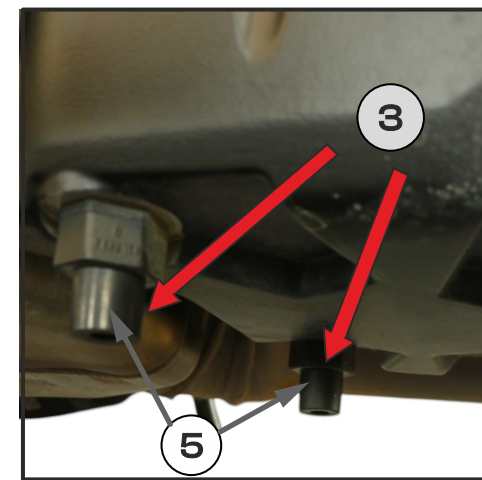

Fig. 6
3. Slide the Rubber Bumper [5] onto the protruding stud to protect the exposed thread. [Fig. 6]